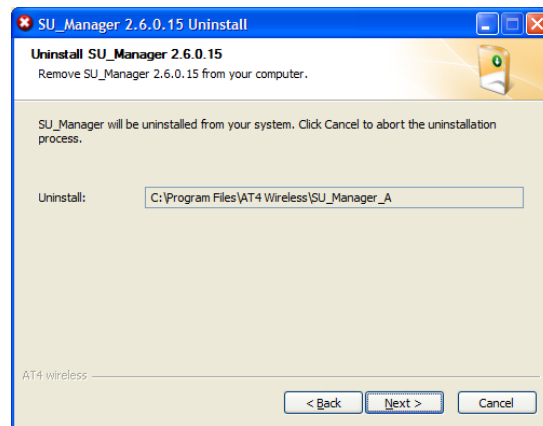

Figure 2-36: Uninstalling SU_Manager
7. In the *Uninstall SU_Manager* window, click **Next**, as shown in Figure 2-36.